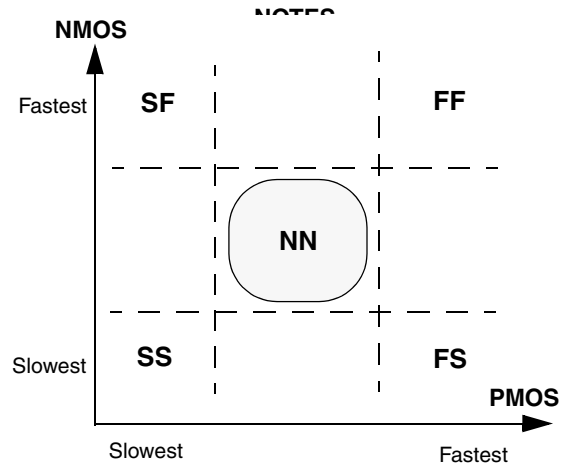

Figure 30. Process Corner Illustration
- a) Divided the process into 5 corners, see Figure 30